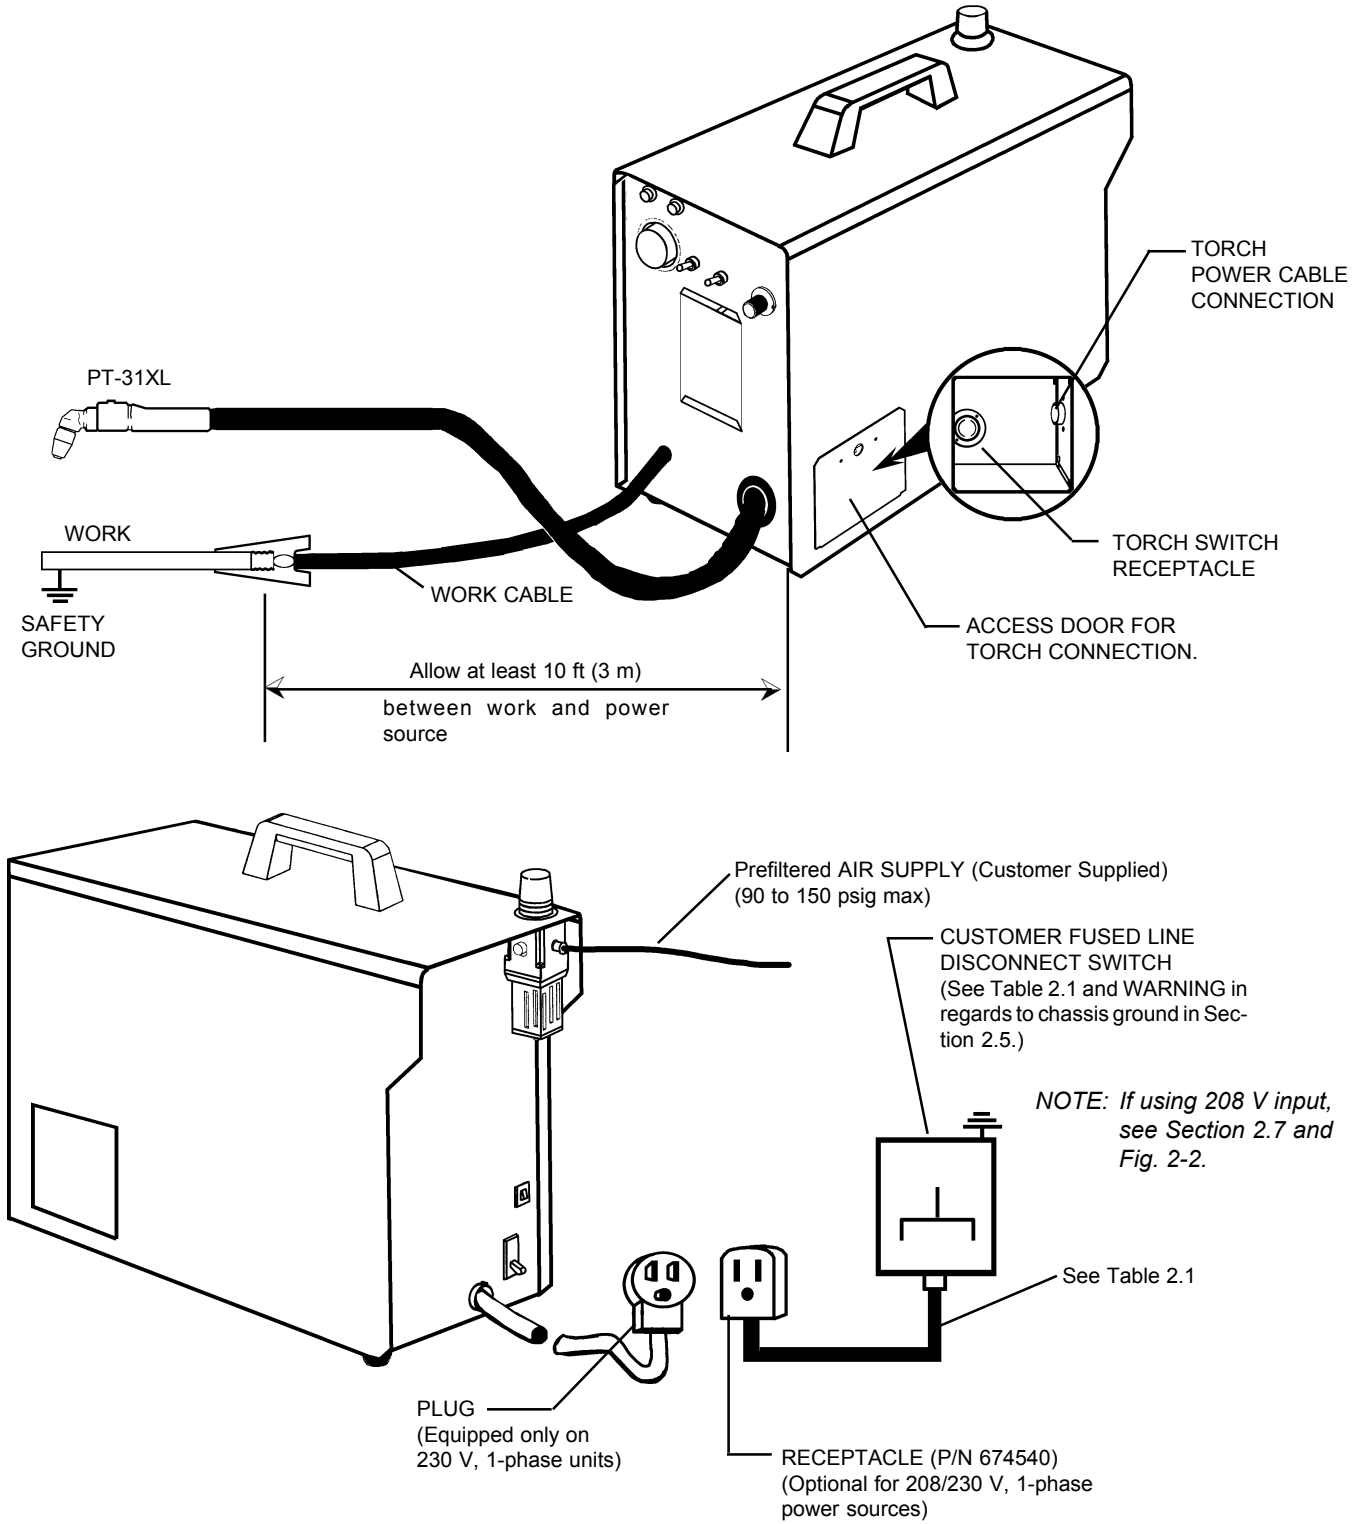

Figure 2-1. PCM-500i Interconnection Diagram
2.5 PRIMARY ELECTRICAL INPUT CONNECTIONS (FIGURE 2-1)
2.6 SECONDARY (OUTPUT) CONNECTIONS (REFER TO FIG. 2-1)